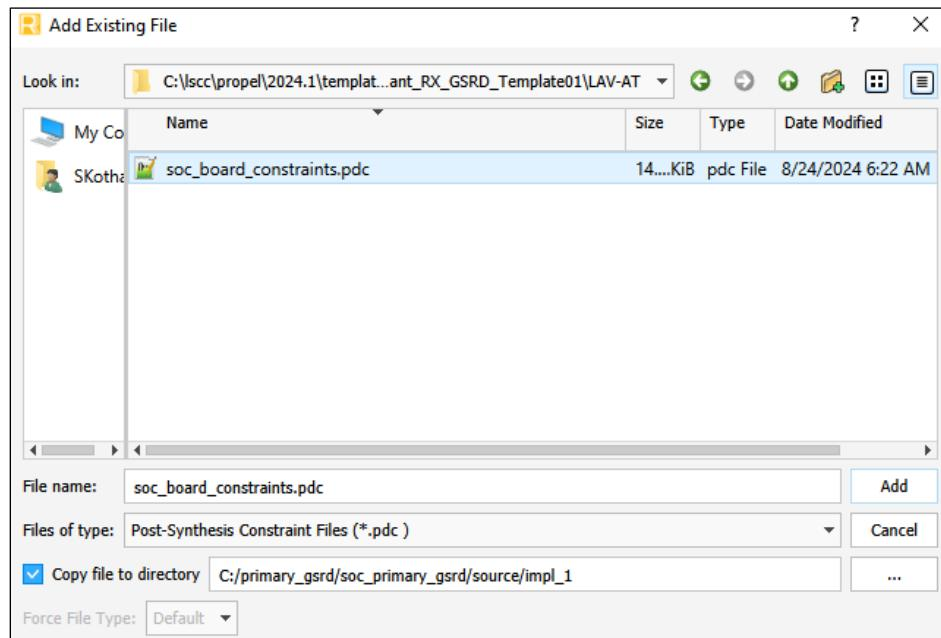

Figure 8.51. Select `soc_board_constraint.pdc` File
7. Similarly, add the `soc_board_constraints.pdc` file to the Post-Synthesis Constraint Files as shown in Figure 8.51.